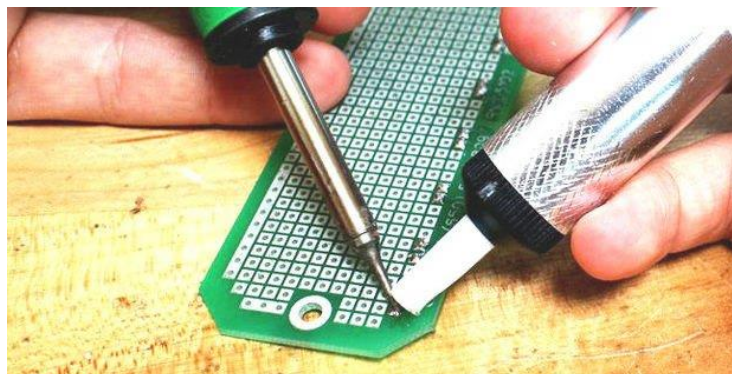

Fig. 3.37 Solder remove
3. Once the solder is molten, place the tip of the desoldering pump against the solder that you want to remove as shown in Figure 3.37.